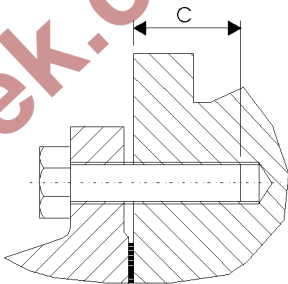

Figure 3
- For installing the meter in the pipe, use screws in accordance with DIN 931. The screw length must be selected so that a thread reach of C mm (Table 2) into the meter is guaranteed (Figure 3). The recommended maximum tightening torque is defined in the table 2.